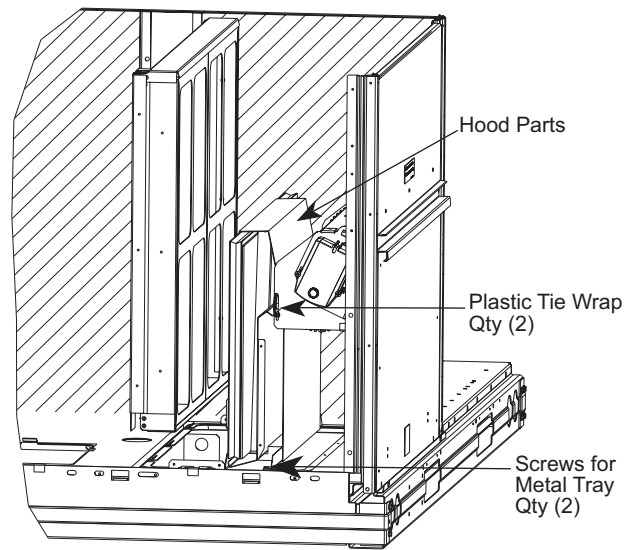

Fig. 10 – Economizer Hood Parts Location
2. Locate the (2) screws holding the metal tray to the basepan and remove. Locate and cut the (2) plastic tie-wraps securing the assembly to the damper. See Fig. 10. Be careful to not damage any wiring or cut tie-wraps securing any wiring.